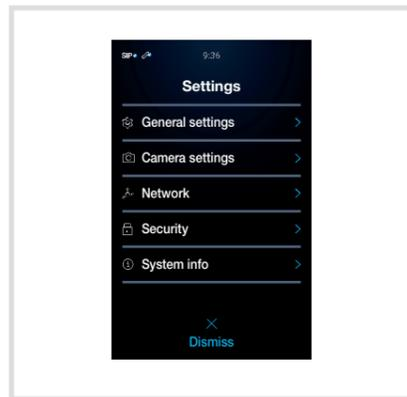

Fig. 33: Configuration card settings
The settings (Figure 33) appear on the touch display.
- Select the setting to be changed on the touch display (Figure 33) and follow the instructions on the display.